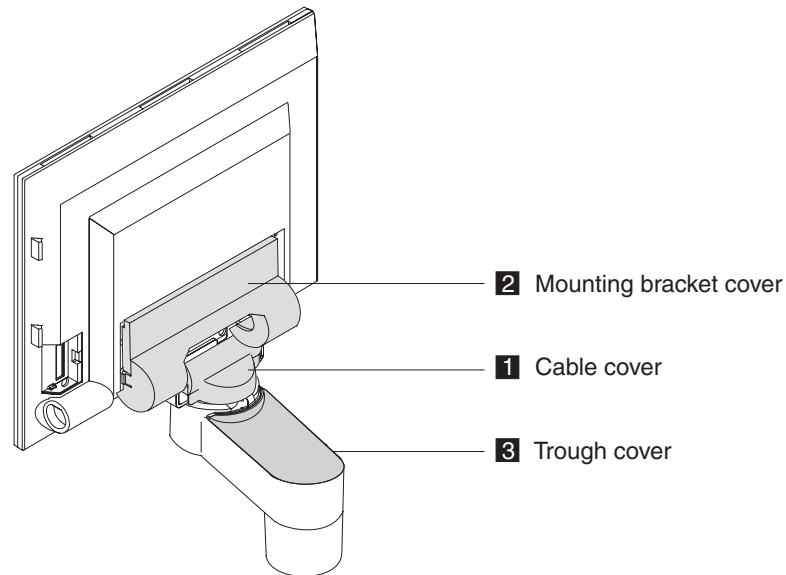

Figure 2-23. Integrated pedestal covers
- a. Attach the cable cover to the mounting bracket, snapping the tabs on the sides of the cover into the small holes on the sides of the mounting bracket. See **1** in Figure 2-23 on page 2-19.